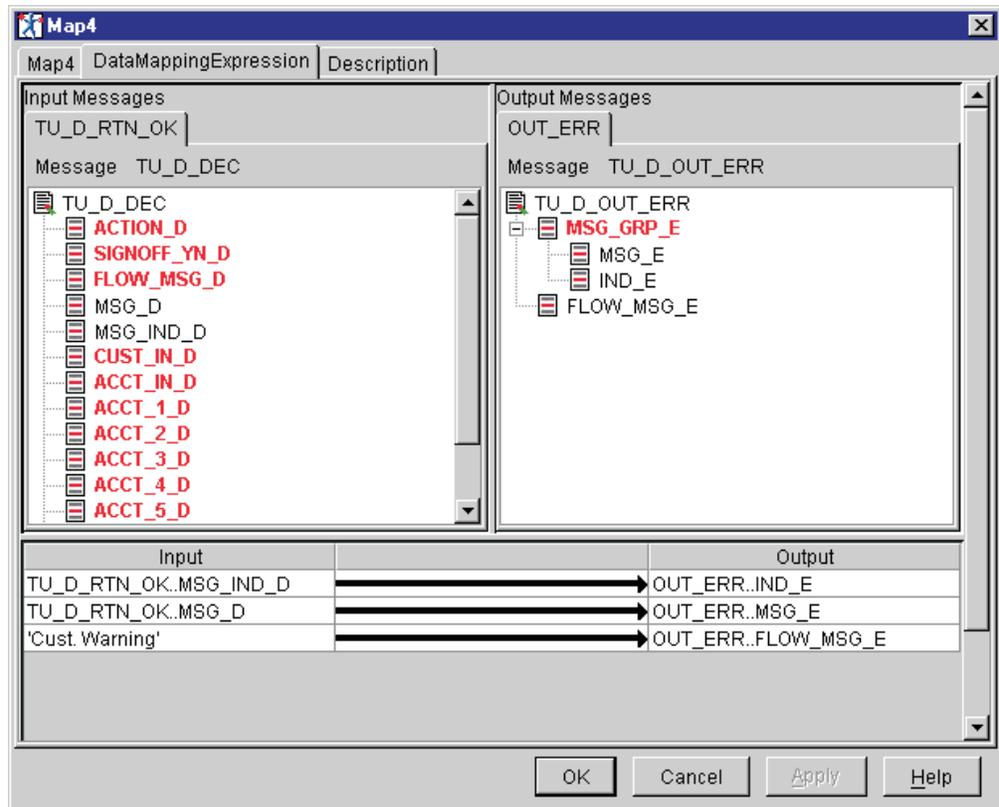

Figure 36. Mapping for Map4 node
- 4) Perform the mapping for Map4 node as listed in Table 16 and shown in Figure 36 on page 54. This map passes warning response messages to the DPL Error response Output Terminal (OUT\_ERR). Click **OK** when the mappings are completed.